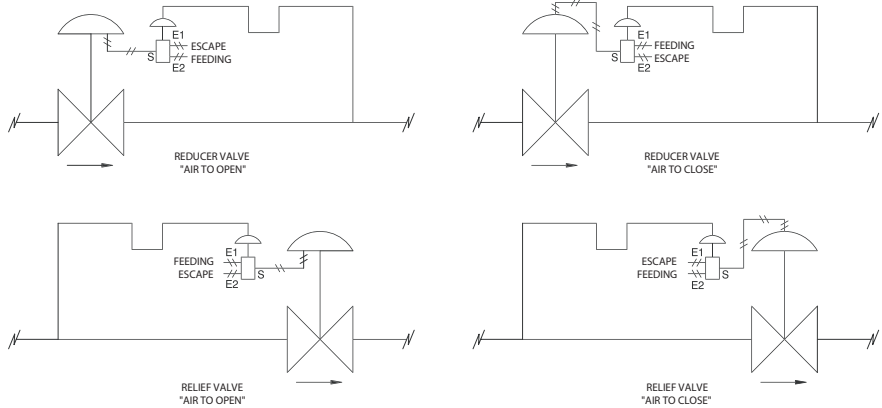

Fig. 1 – Typical installations of valves with type-01 pilot
4.8 The **45 Series** Type 01 pilot valve fittings (figure 1), reducer or relief, should be performed as follows: